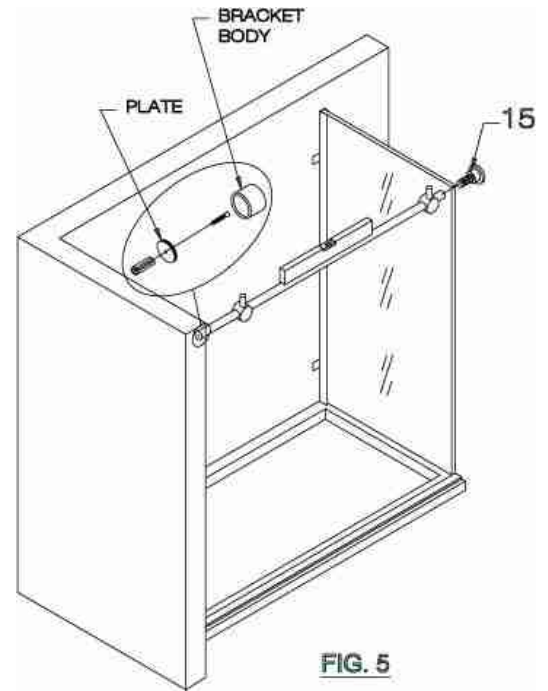

FIG. 5
5. Place the structural rail (#14) inside the wall mount bracket (#1). [SEE FIG.4 & FIG.5]